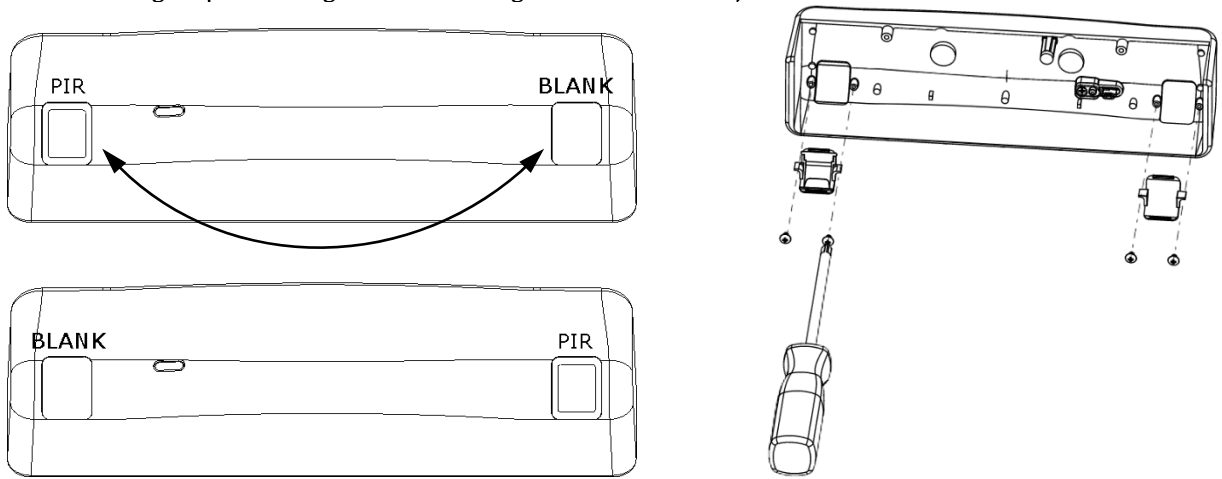

Figure 3. Removing, Repositioning and Reinstalling the Cover Inserts
- Remove, reposition and reinstall the inserts into the lock cover as necessary using a #1 Phillips screwdriver (see Figure 3, "Removing, Repositioning and Reinstalling the Cover Inserts").